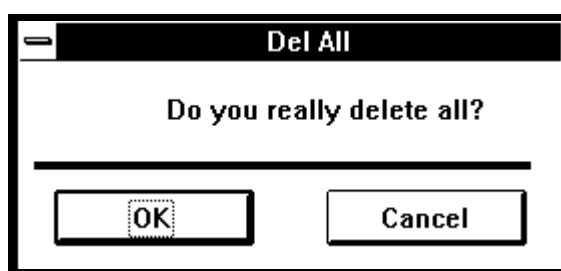

Figure 5-19 Confirmation dialog box
- If you want to delete all search paths, click on the Delete All button. When you click on this button, a confirmation dialog box pops up, requesting your confirmation of whether you are sure you want to delete all. When this dialog box appears, click on the OK button. If you click on the Cancel button here, no search path is deleted. Figure 5-19 shows the structure of the confirmation dialog box.